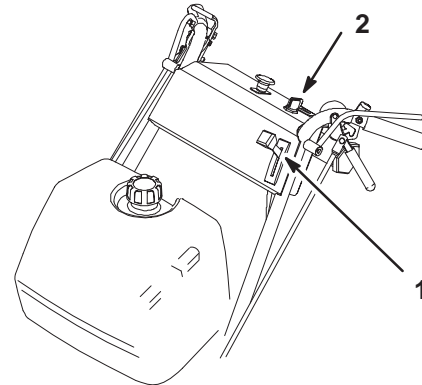

Figure 13
1. Move the throttle lever to “SLOW” (Fig. 13).
4. Turn the ignition key to “OFF” (Fig. 13).